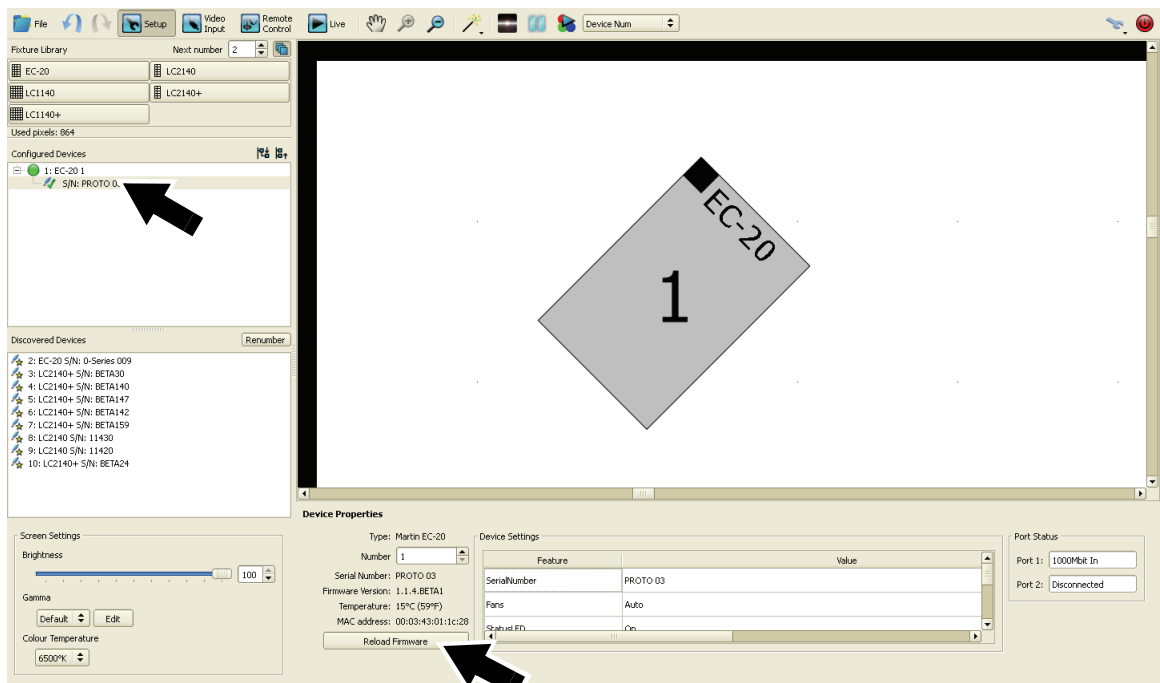

Figure 46: Reloading firmware in a single panel
1. See Figure 46. In the P3-100 application, open the **Setup** window. The **Configured Devices** list on the left of the screen lists the panels that are connected and configured. Each panel has a line in the list consisting of a plus sign, green button and panel type. Click on the plus sign to view the panel's serial number.